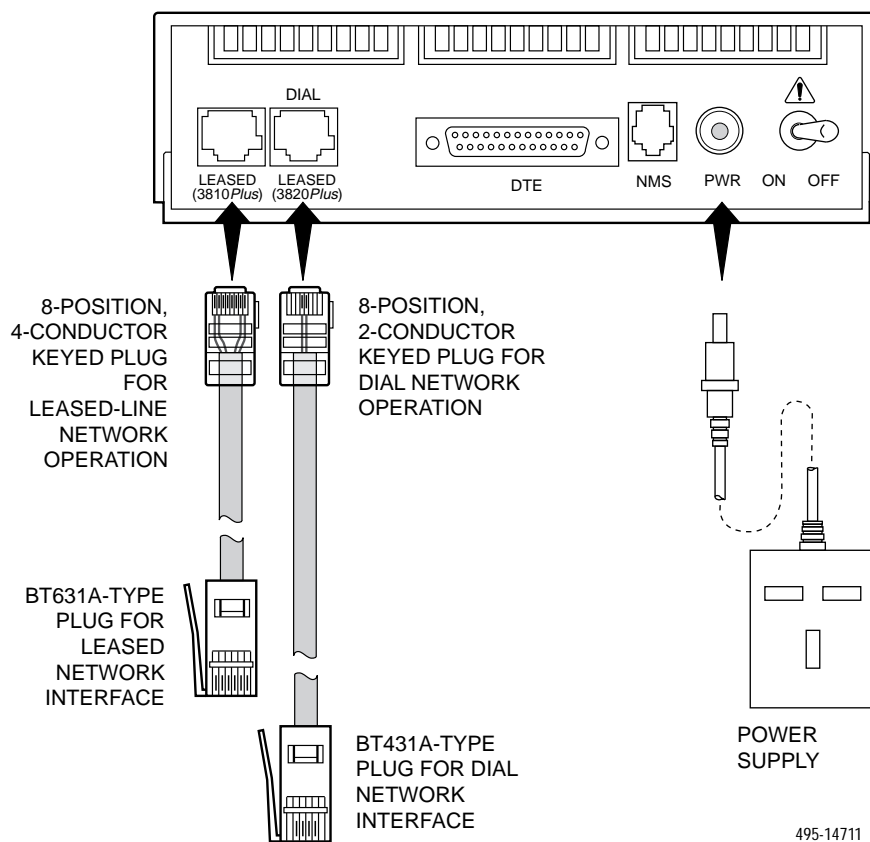

Figure 1. 3810Plus Rear Panel and Power Supply
The power supply used with the 3810*Plus* modem (Figure 1) is designed for an input voltage of 240 Vac (± 10 percent), and an input frequency of 50 Hz.
Figure 1 shows how 3810*Plus* modems are connected to certain TELCO jack types using the supplied cables.
1. Insert the 8-position, 4-conductor modular plug into the jack labeled LEASED (3810*Plus*), Figure 1.
1. Insert the 8-position, 2-conductor modular plug into the jack labeled DIAL, Figure 1.
2. Insert the power supply's cylindrical connector into the modem's rear panel power receptacle (Figure 1).